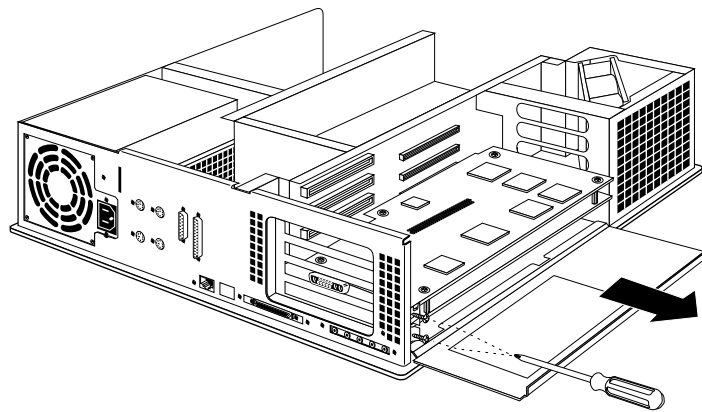

Figure 2-18 Removing the Screws From the Metal Extension
4. Remove the screws attaching the board to the slots as shown in Figure 2-18.
Note: Figure 2-18 shows an XZ graphics board set. If your workstation has the Extreme graphics board set, there will be three screws to remove.